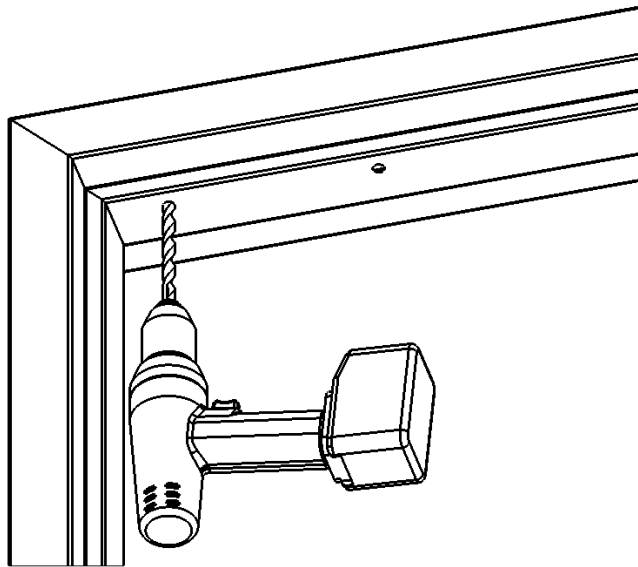

Figure 9. Drilling the Bracket Mounting Holes
1. DRILL two (2)  $\frac{3}{8}$ " diameter holes at bracket-mounting hole marks (see Figure 9, "Drilling the Bracket Mounting Holes"); DO NOT oversize.